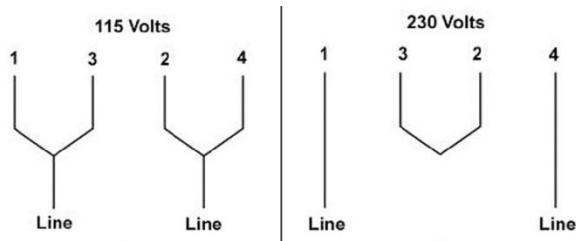

Figure 7-2: voltage conversion
1. Open motor junction box cover, and change leads based on wiring diagram inside cover. This diagram is also shown in Figure 7-2. (NOTE: In case of discrepancy, diagram inside junction box cover takes precedence.)